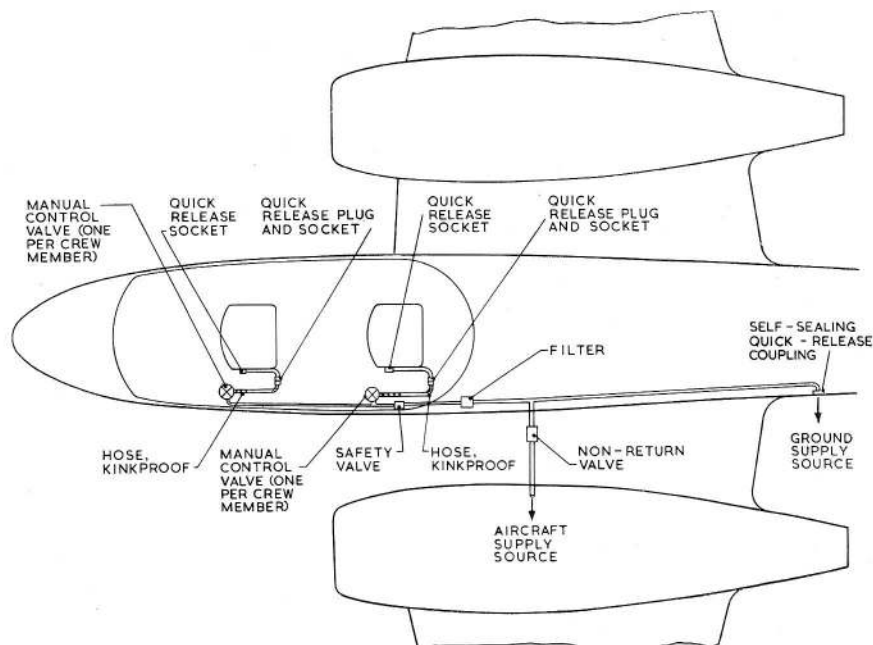

Fig. 4. Air supply installation for two-seater aircraft
14. Aircraft and ground air supply systems will not necessarily be standard even for a particular type of aircraft, e.g., all single-seater fighters may not have the same layout. There will, however, be standard components, and the illustrations in fig. 4 and 5 show the recommended layout of installations using standard parts. The actual supply sources and method of conditioning are not shown, since these will vary from aircraft to aircraft.